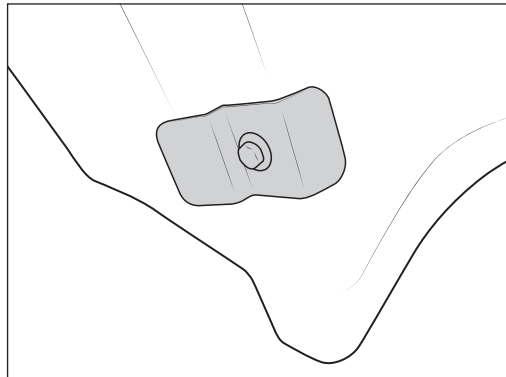

Figure 7
- C. Attach Harness Bracket to AEV Lower Airbox using supplied hardware (fig. 7).